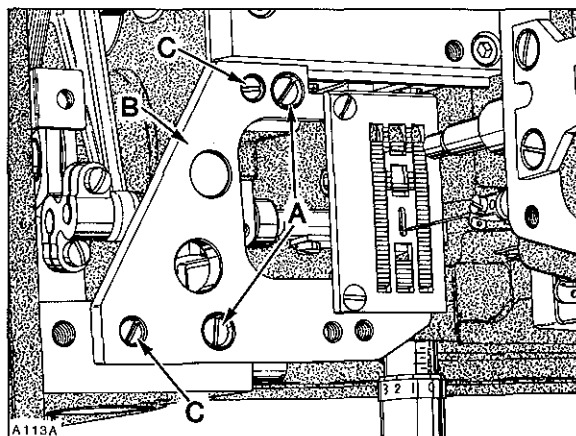

Fig. 12
Feed dog should be centered in throat plate with equal clearance on both sides and ends. At highest point of travel, feed dog teeth should extend the depth of a full tooth, or approximately 3/64 inch (1.2mm) above throat plate. MINOR (right to left) adjustments can be made by loosening two screws (A, Fig. 12) in throat plate support (B). Loosen two screws (C) securing two locating ferrules which allow movement to align throat plate support. Reposition slightly as required, considering both needle hole slot and feed dog slots. Tighten screws (C) first, then screws (A).